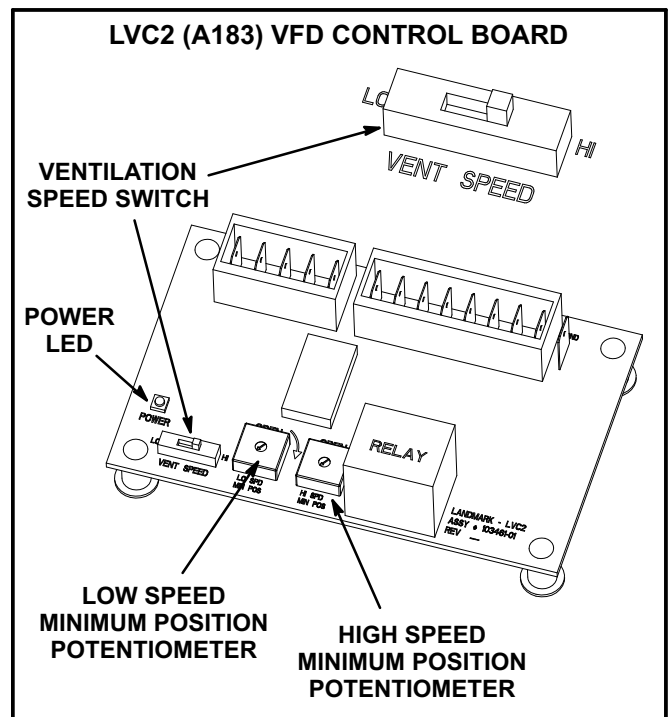

FIGURE 19
To save energy during ventilation, the blower speed can be set to low. This is accomplished by changing the ventilation speed switch on the VFD control board to "LO". See figure 19.
To maintain required minimum ventilation air volumes when the unit is in the occupied mode, two minimum damper positions must be set. A high and a low speed potentiometer are provided on the VFD control board to adjust minimum damper position. See figure 19.
- 5- Check the power LED on the board. See figure 19.
To maintain required minimum ventilation air volumes when the unit is in the occupied mode, two minimum damper positions must be set. A high and a low speed potentiometer are provided on the FCB control board to adjust minimum damper position. See figure 19.